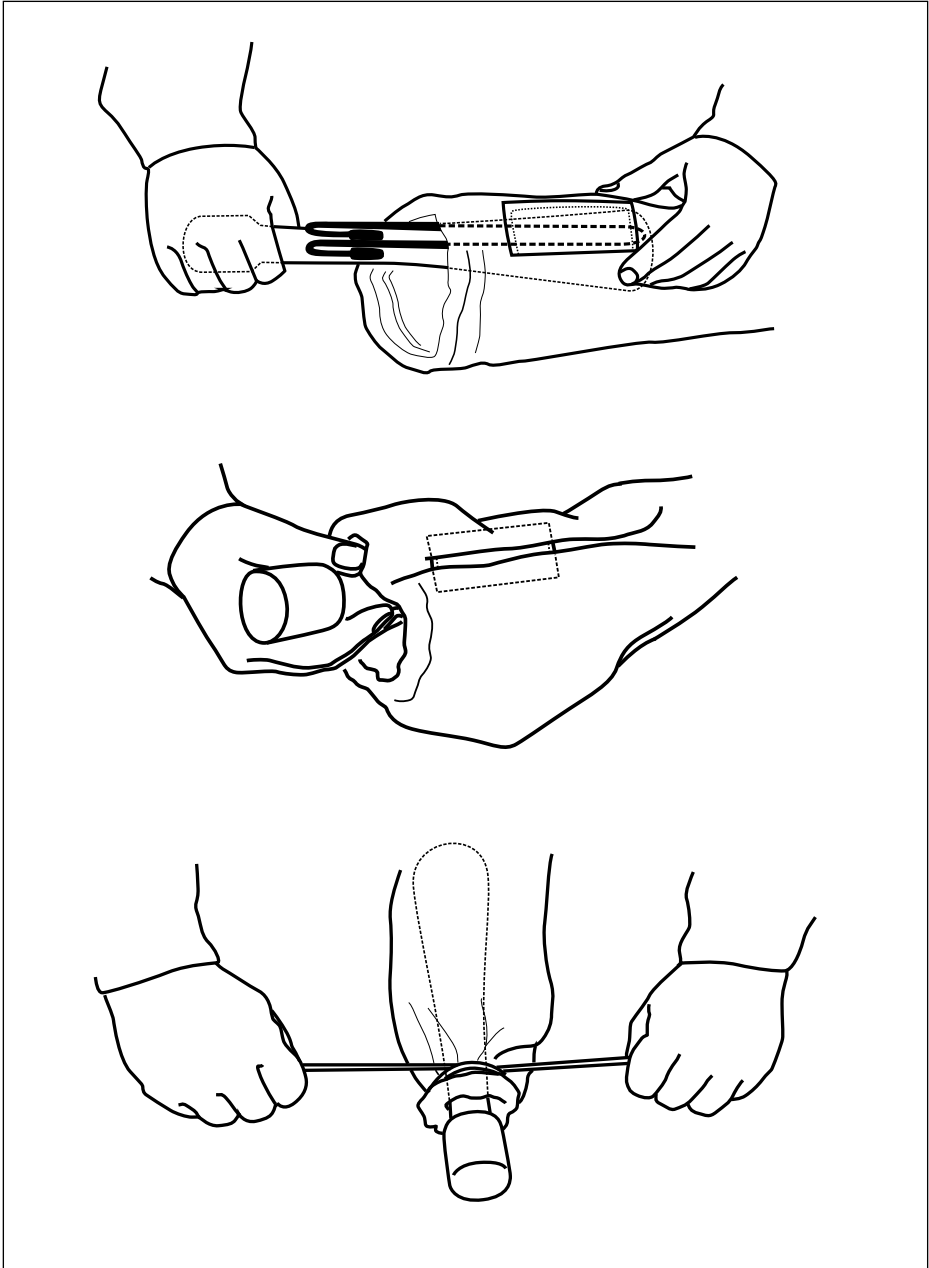

Fig. 4.1.1 Dust bag
5.1 **Dust bag.** Empty the dust bag regularly. The dust bag is held in place by an elastic strap and by a wire-reinforced split seam on the top of the bag. The seam tucks into a metal clip on the exhaust tube. To remove the dust bag, unsnap the elastic strap, grab the end of the bag and pull it toward the main body until the place where the split seam joins together clears the end of the metal clip. The bag can be removed and shaken out. To reattach the bag (see fig. 4.1.1), shove the exhaust tube into the bag until the end of the metal clip is beyond the place where the seam joins. Tuck both of the reinforcing wires into the clip and pull the bag away from the main body, shoving the reinforcing wires into the clip as you pull. Don't forget to resnap the elastic.